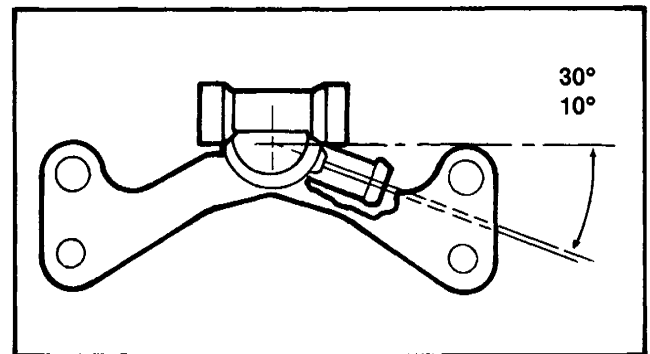

Figure 2-75. Banjo Fitting Position
- Install plunger body (18) following steps 2 through 5 in FLT procedure.
- Install spacer (13), washer (12), solenoid and case (11) on plunger body (18).
- Install O-ring (14) in groove above threads on plunger body (18).
- Install banjo fitting (9) with new O-rings (10) above and below the fitting, on plunger body (18).
- Install banjo bolt (8) to retain banjo fitting. Do not tighten.
- See Figure 2-75. Banjo fitting must be positioned as shown. Tighten banjo bolt (8) to 8-10 ft-lbs torque.